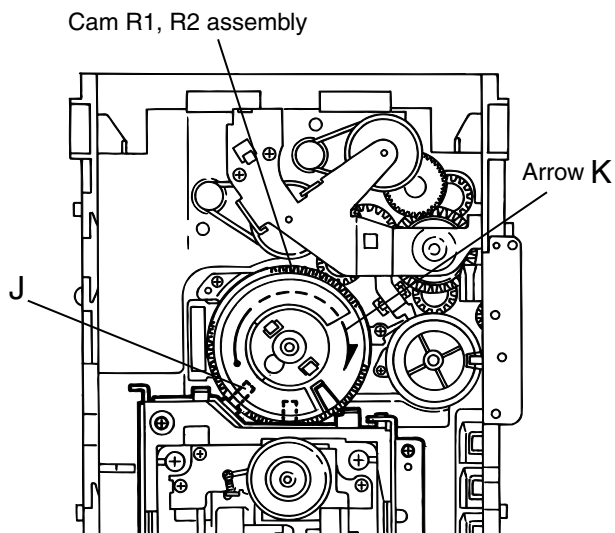

Fig.11
■ Removing the DVD mechanism (See Fig.11 and 12)
1. For dismantling only the DVD mechanism without removing the DVD mechanism assembly, align the shaft "J" of the DVD mechanism assembly to the position shown Fig.11 while turning the cam R1 and R2 assembly in the arrow direction "K" .